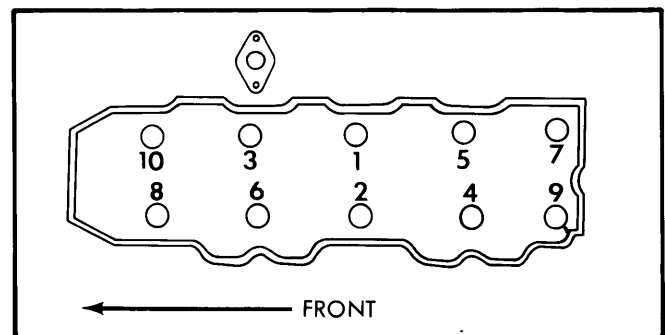

Fig. 1 Cylinder Head Tightening Sequence
2) Paint mating marks on camshaft sprocket and timing chain. Remove rubber half circle seal and cam sprocket retaining bolt. Pull distributor drive gear and fuel pump drive cam off of sprocket. Remove sprocket from camshaft, allowing sprocket and chain to rest in cylinder head. Remove chain cover bolt, then remove cylinder head bolts in reverse of tightening sequence. See Fig. 1.
Installation – Apply liquid sealer at 2 front corners of block and position head gasket over locating dowels. Place head in position and turn camshaft so dowel is at top. Install rocker arm assembly over locating dowels and tighten head bolts in 3 steps in the sequence shown in Fig. 1. Continue installation in reverse of removal sequence, ensuring that valve and ignition timing is properly set.